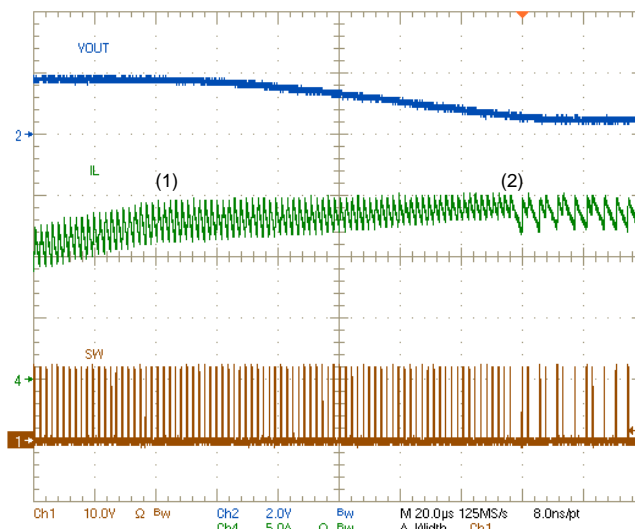

图 35. Example Current Limit Waveform
The device is protected from overcurrent conditions by cycle-by-cycle current limiting on both the high-side MOSFET and the low-side MOSFET. In an extended overcurrent condition the device enters hiccup to reduce power dissipation. 图 35 shows the typical response with an overload on the output. At time (1) the high-side MOSFET peak current limit starts to limit the peak inductor current. At time (2) the low-side MOSFET forward current limit starts to cause the switching frequency to drop to prevent current runaway.